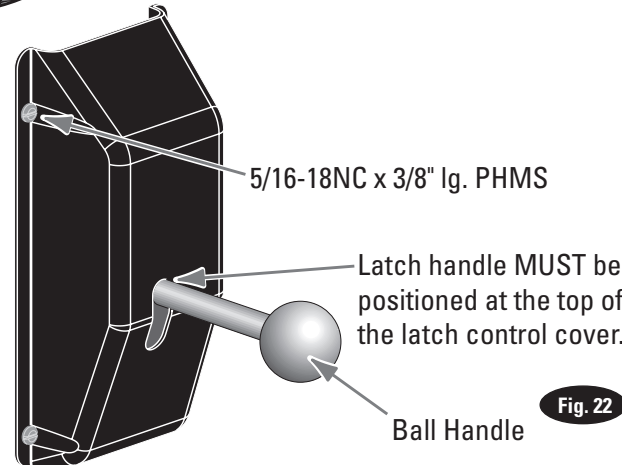

Fig. 22
- I) At this point you **MUST** install the latch handle, jam nut, and right column latch cover Fig. 19 & Fig. 22. Install latch handle ball, Fig. 22.